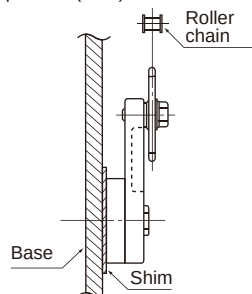

Fig. 3 Tensioner position (side)
- 4) Adjust with a shim, as shown in Fig. 3, so that the center of the roller chain and idler sprocket are aligned.